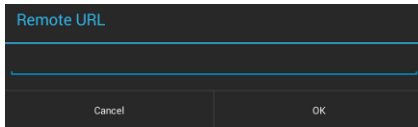

FIG. 31 Remote URL window
2. Press **Remote URL** to enter the URL of the remote profile to use via the on-screen keyboard (FIG. 31):